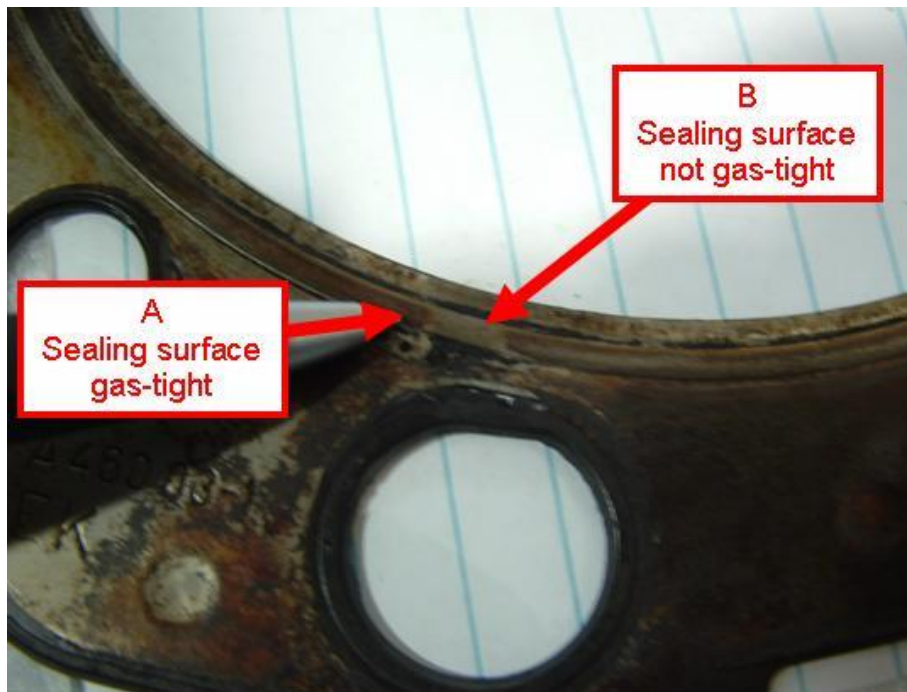

Figure 1
1. Check cylinder head gasket (see Figure 1) at fire deck (combustion chamber) sealing area.
- Sealing surface (A) at the fire deck (combustion chamber bore), the cylinder head gasket is gas-tight.
- Sealing surface (B) at the fire deck (combustion chamber bore), the cylinder head gasket is not gas-tight.